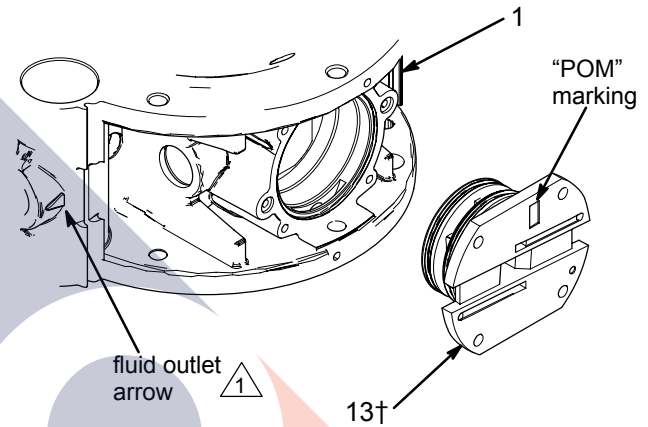
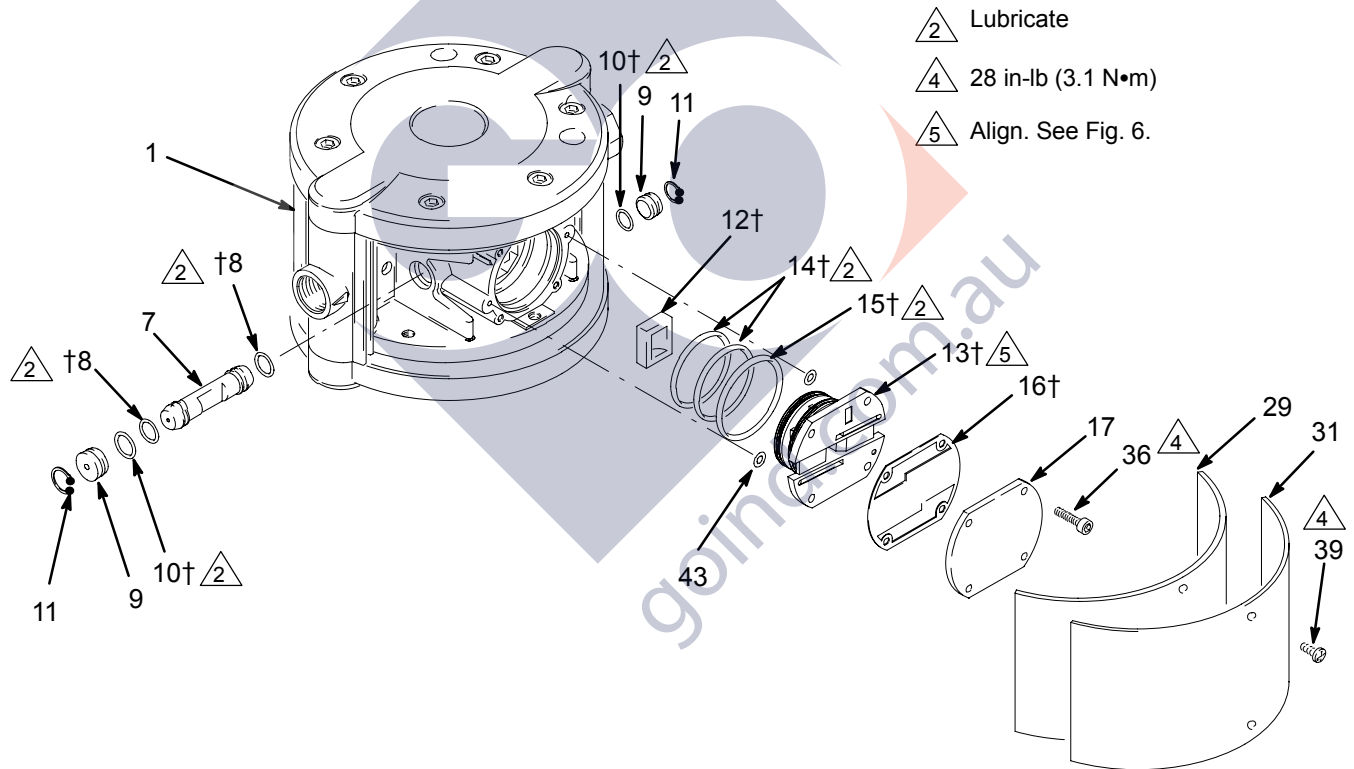

Fig. 6
Fig. 7
1. Remove the side cover (31) and felt dampener (29).
2. Remove the four screws (36), air valve cover (17), and gasket (16). See Fig. 7.
3. See Fig. 6. Note the orientation of the air valve plate (13) relative to the fluid outlet arrow, with "POM" marking up. Pull the plate out of the center housing (1). Remove the three o-rings (14, 15) and the two o-rings (43) from the plate. See Fig. 7.
4. Remove the air valve cup (12) from the center housing (1).
5. Remove the retaining rings (11) and plug (9) from both sides, and slide the carriage (7) from the center housing (1). Remove the o-rings (8, 10) from the carriage and the plug.
1. Lubricate the o-rings (8†) and install them on the carriage (7). Slide the carriage into the center housing (1) so the notch faces out, as shown in Fig. 7.
2. Lubricate each o-ring (10†) and install them on the plugs (9). Insert a plug in each side to secure the carriage (7). Install the retaining rings (11) to hold these parts in place.
3. Install the air valve cup (12†) in the notch of the carriage (7) so the open side faces out.
4. Install two o-rings (43) in the counterbore of the air motor.
5. Lubricate the large o-ring (15†) and the two small o-rings (14†) and install them on the air valve plate (13†). Align the point on the plate with the arrow on the center housing (1) as shown in Fig. 6. Install the plate in the housing.
7. Reinstall the air valve cover (17) and screws (36). Torque the screws to 28 in-lb (3.1 N•m).
9. Reinstall the felt dampener (29) and side cover (31). See page 14.